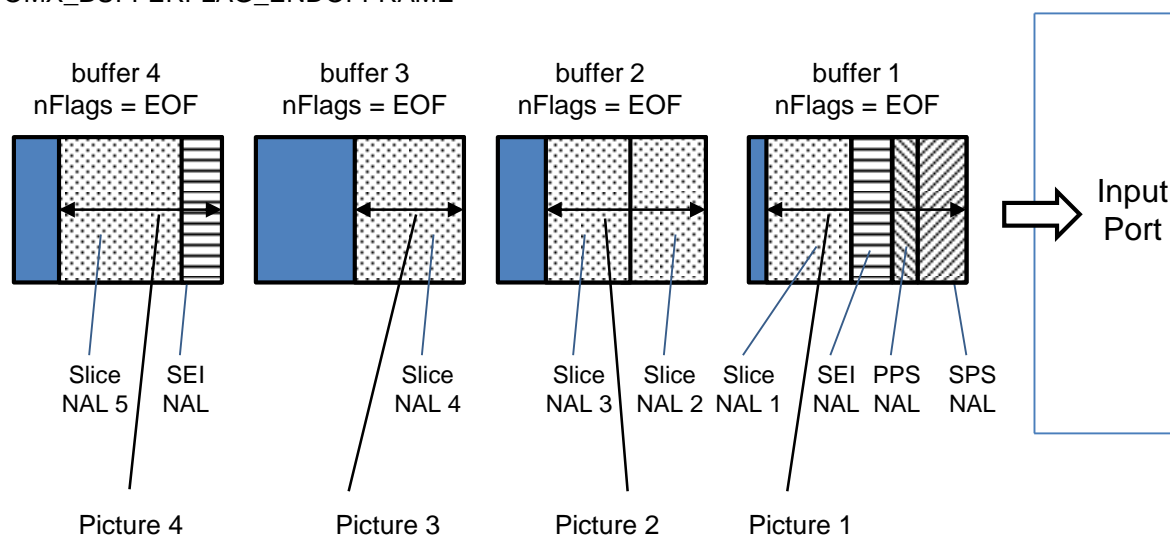

Figure 3-1 Example of Input Buffer Sequence - A Frame Data
(1) OMXR_MC_VIDEO_StoreUnitEofSeparated mode
- A frame data of progressive contents (see Figure 3-1)